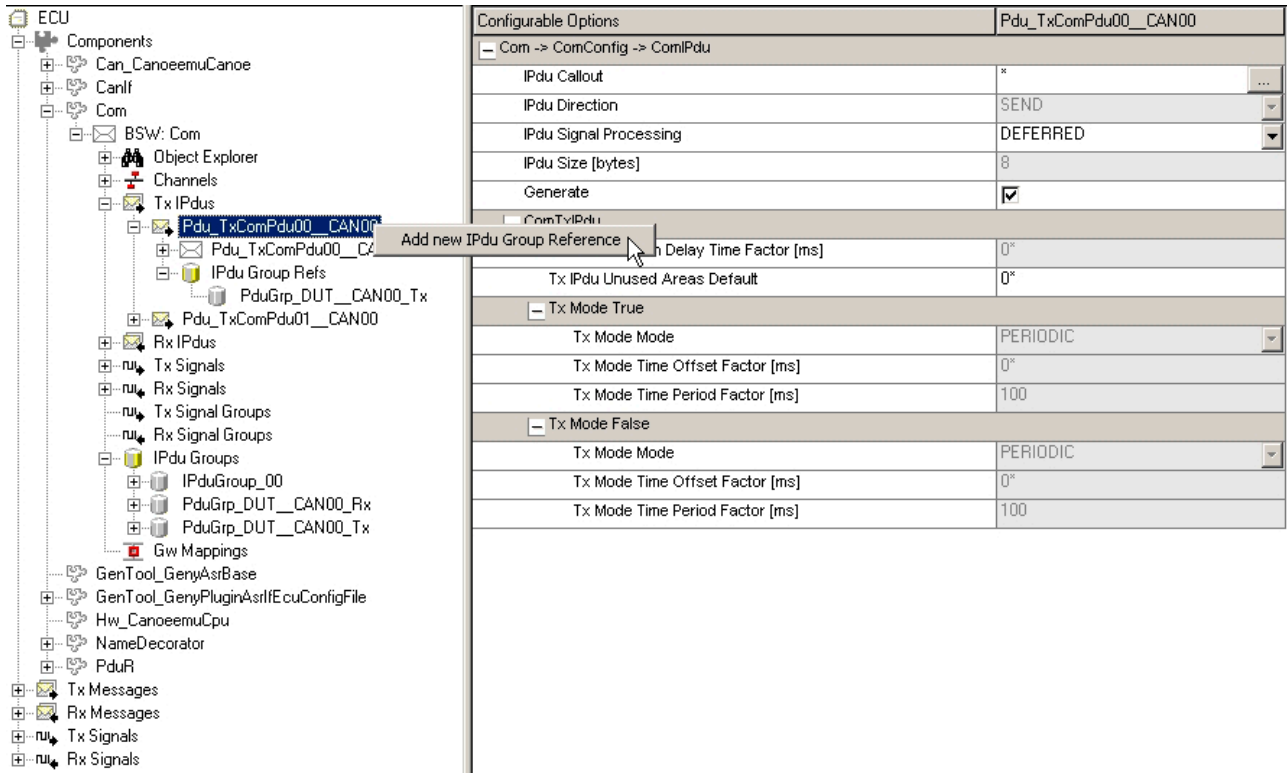

Figure 3-6 Creating an I-PDU group reference
- First, create a new I-PDU group reference object by right-clicking on to I-PDU node in GENy and selecting "Add new Ipdu Group Reference" as shown in Figure 3-6.